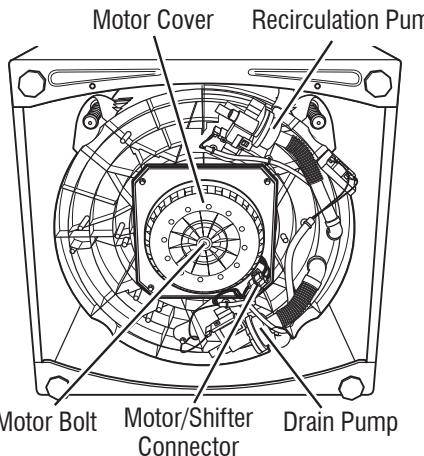

Figure 6 - Drive Area, Viewed From Bottom, Sound Pad (If Equipped) Removed.
8. Tilt washer back and remove sound pad (if equipped) to access the drive system (see Figure 6).
7. Tilt washer back to access the bottom of the washer and the drive motor area (see Figure 6).